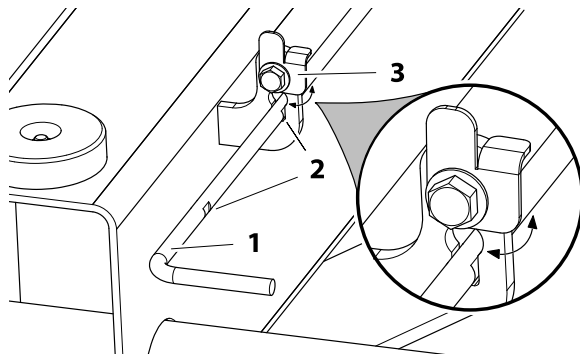

Figure 6-5. Safety Prop Actuator Rod
2. Rotate the rod keeper plate and release the safety prop actuator rod at the front of the machine. (See Figure 6-5.)